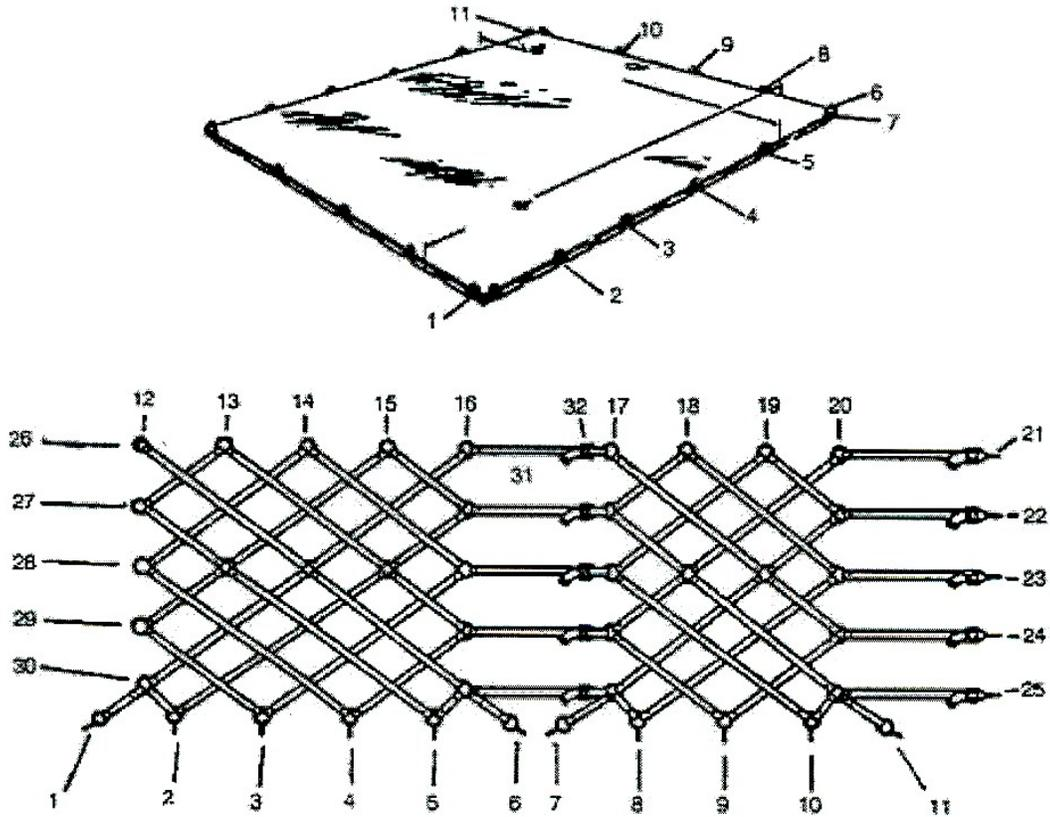
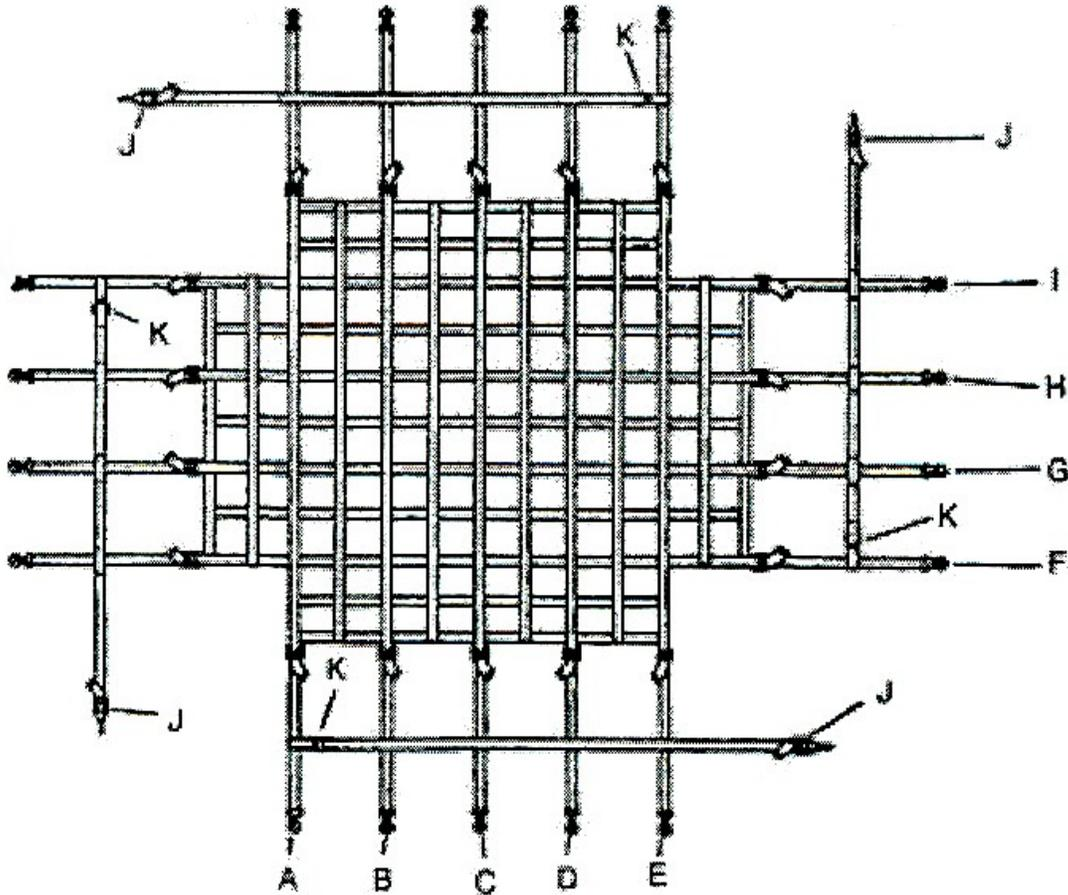

Figure 3-127
Figure 3-128
d. Direct personnel to lay out the two side nets (see Figure 3-127) and the top net (see Figure 3-128) as a set then fold the nets and secure the three nets together.